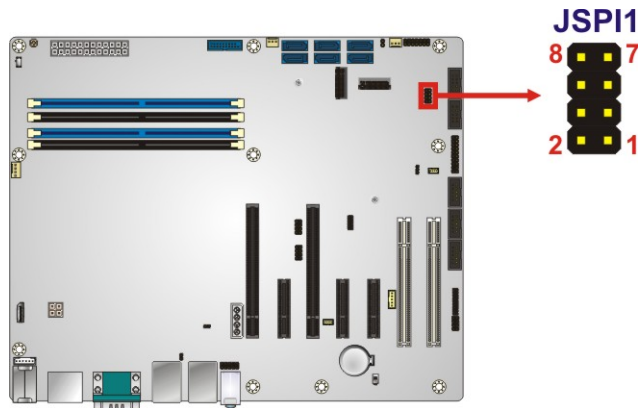

Figure 3-28: SPI Flash Connector Location
- CN Location: See Figure 3-28